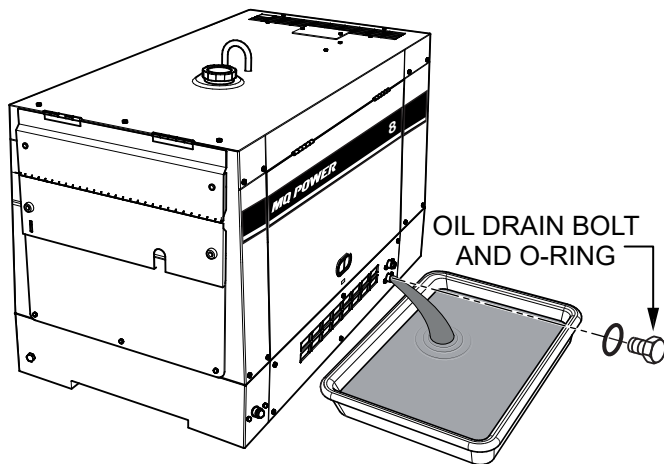

Figure 50. Draining Engine Oil
1. Remove the **oil drain bolt** and **O-ring** (Figure 50) and allow the oil to drain into a suitable container.